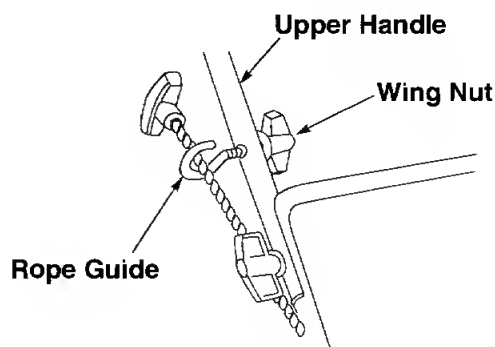

Figure 7
The rope guide is already attached to the right side of the upper handle of your mower. See figure 7.
- Check and make sure that the rope guide faces as shown in figure 7 so that the opening in the rope guide faces up.